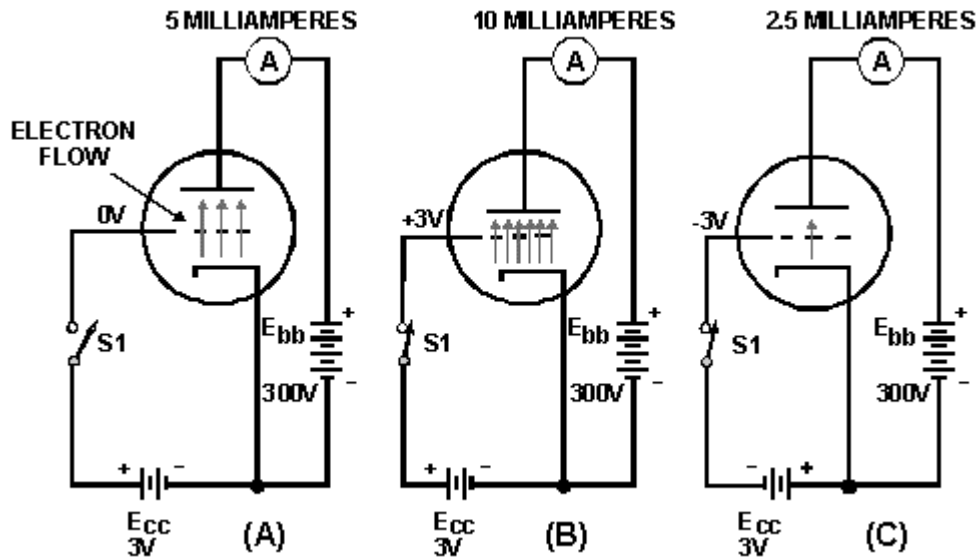

Figure 1-15.—DeForest's experiment.
In his next attempt, De Forest decided to change the element between the cathode and the plate. Instead of a solid metal plate, he used a wire mesh. This would allow electrons to flow from the cathode, **THROUGH THE WIRE MESH**, to the plate. This tube circuit is shown in figure 1-15. In view (A) you see De Forest's circuit with 0 volts applied to the third element, (today called a control grid or occasionally just the grid). Under these conditions, assume that the ammeter reads 5 milliamperes. With no voltage applied to the grid, the grid has little effect on the electron stream. For all practical purposes, the control grid is not there. Most electrons flow through the open mesh. The tube functions as a diode.
DeForest had certainly hit on something. Now the problem was to find out what would happen when a negative potential was applied to the grid. This is shown in view (C) of figure 1-15. When De Forest applied -3 volts to the grid, he found that plate current decreased to half of what it was when the grid had no voltage applied. The reason for this is found in the principle of "likes repel." The negatively charged grid simply repelled some of the electrons back toward the cathode. In this manner, the attractive effect of the plate was decreased, and less current flowed to the plate.
The circuit is identical to the one in figure 1-15 except that now a resistor (called a plate-load resistor, R_L) has been added to the plate circuit, and a voltmeter has been added to measure the voltage drop across R_L .
Let's take another look at the circuit in figure 1-15(B). We found that the positive charge on the grid caused more plate current to flow. However, when the grid becomes positive, it begins to act like a small plate. It draws a few electrons from the space charge. These electrons flow from the cathode across the gap to the positive grid, and back through the external grid circuit to the cathode. This flow is known as *grid current*. In some tube applications, grid current is desired. In others it is relatively harmless, while in some, grid current causes problems and must be eliminated.